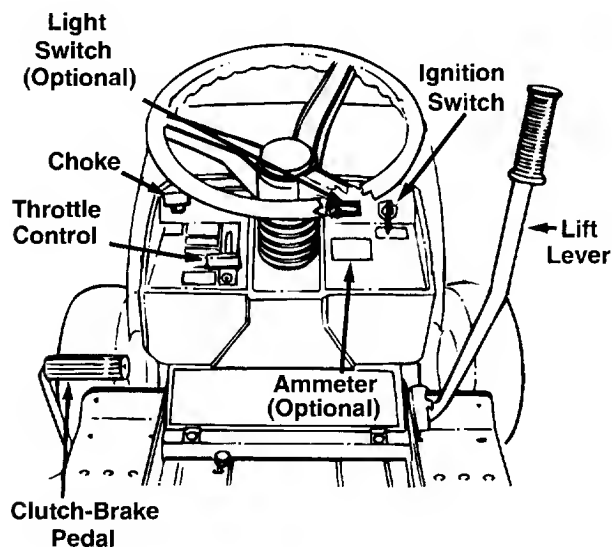

Figure 12
The ignition switch is located on the dashboard. The engine is started by turning the key to the **START** position. When the engine is running, leave the key in the **ON** position. To stop the engine, turn the key to the **OFF** position. See Figure 12.
The throttle control is located on the dashboard and is used to regulate the engine speed. To get maximum efficiency from cutting, the throttle should be in the **FAST** position when operating the mower. See Figure 12.
The choke control is located on the dashboard and is operated manually. Details for the choke operation are covered in the separate engine manual packed with your unit. See Figure 12.
The head lamps are operated by pushing the light switch located on the dashboard. The head lamps will only operate when the engine is running. See Figure 12.
The ammeter registers the rate of battery charge or discharge. The ammeter will register on the discharging side with starting the engine. It should register on the opposite side (charging) when the engine is running in the fast position until the battery is completely charged. With a fully charged battery or with the engine idling, the ammeter will not show a charge. See Figure 12.
The clutch-brake pedal is located on the left side of the tractor. See Figure 12. Depressing the pedal returns the drive unit to neutral (N) and applies the brake.